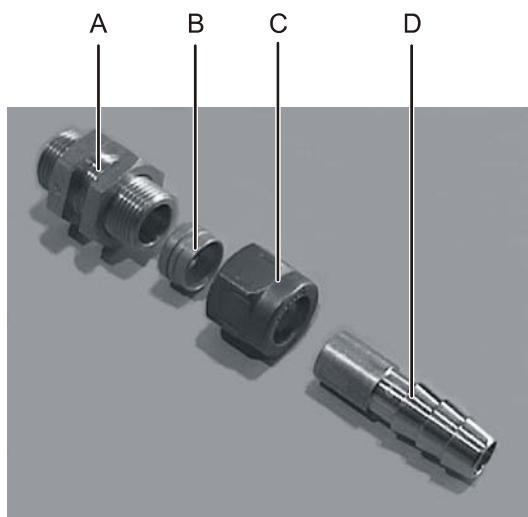

Figure 139: Cooling water connection
5. Slide the union nut (see Figure 139, C) over the hose nipple (D).
6. Slide the compression ferrule (B) over the hose nipple until it reaches its stop.
7. While pressing the hose nozzle (see Figure 139, D) against the water inlet connection fitting on the laser device (A), tighten the union nut (B) until finger tight.